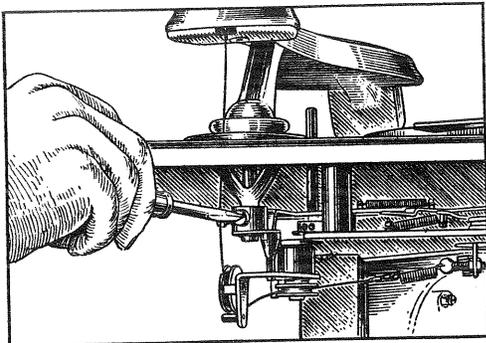
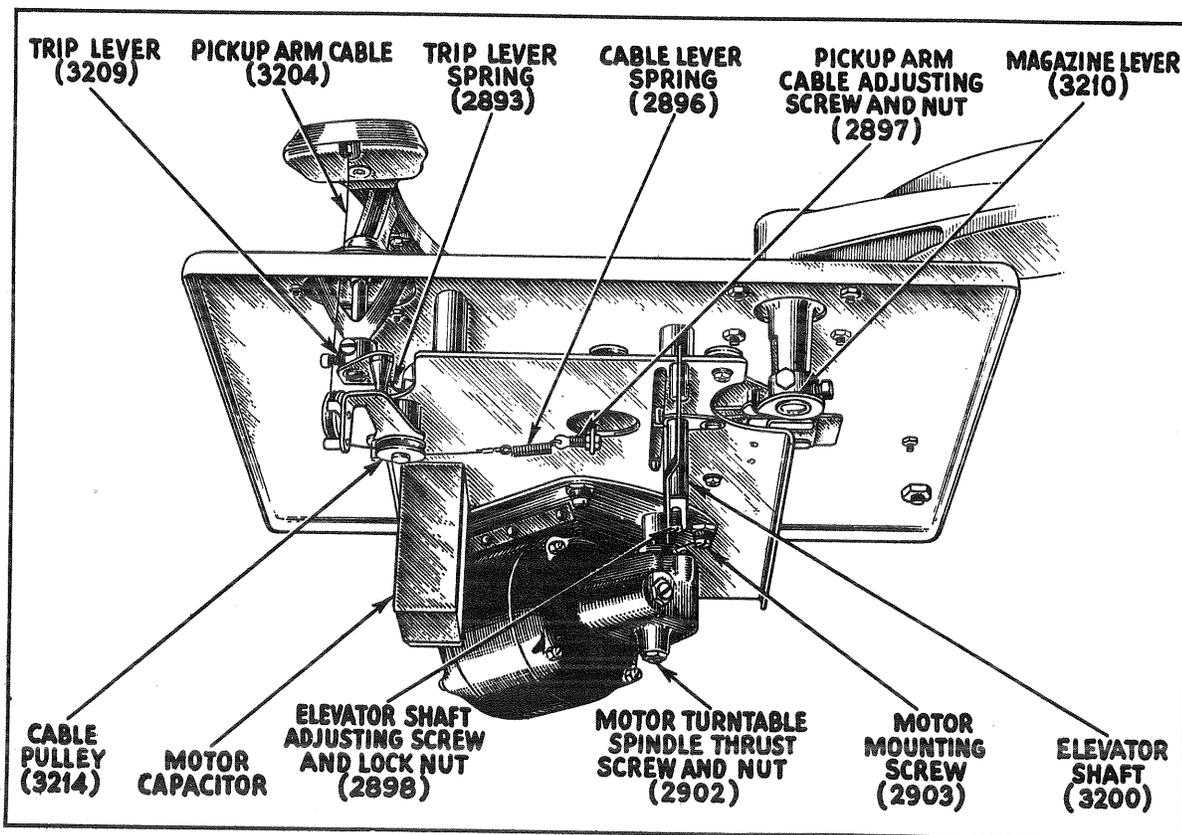
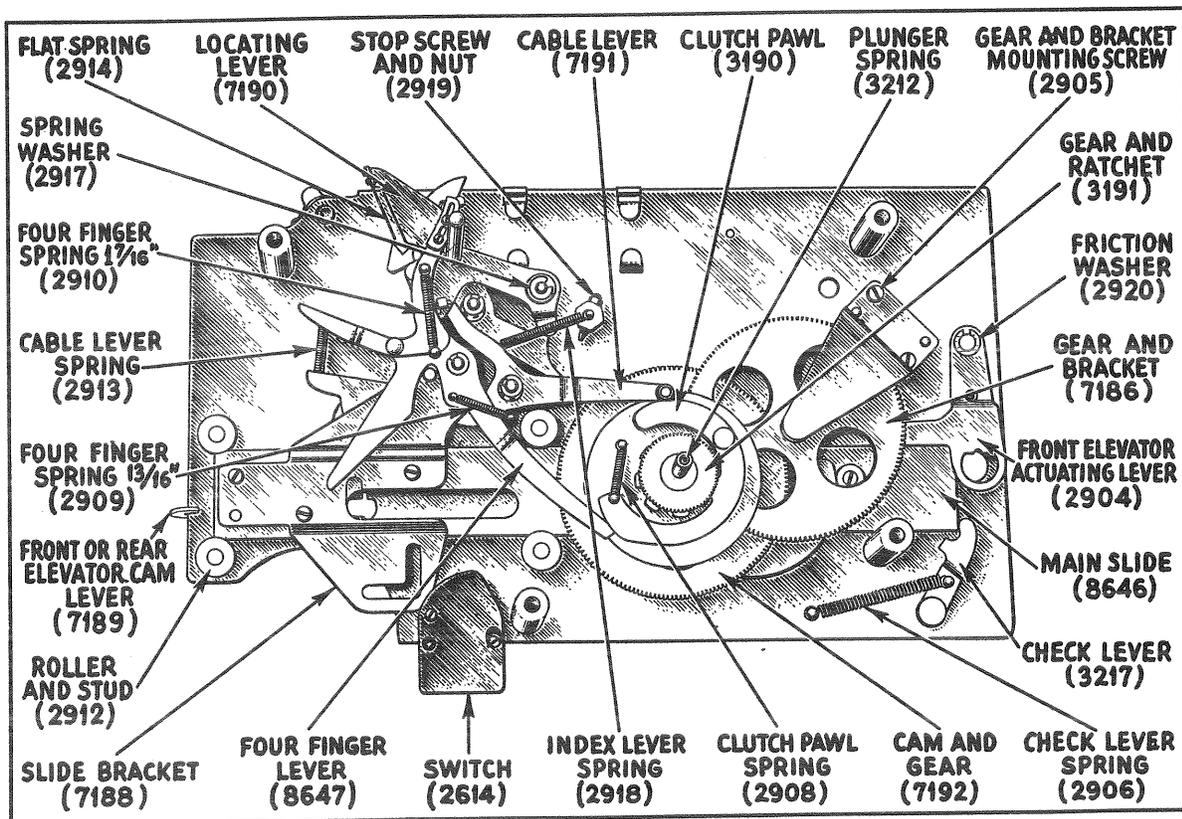

Figure 5—Adjusting position of tone arm
Figure 15—Bottom view of mechanism showing parts
Figure 17—Top view of mechanism with plate removed
- (a) **Improper Tone Arm Setting.** Loosen the set screws as shown in Figure 5. With the mechanism out of its cycle, press the locating lever at a point near the flat spring until the lever strikes the stop screw. Holding the locating lever, Figure 17, in this position, move the front portion of the trip lever, Figure 15, until the pin against which the flat spring presses, is making contact with the locating lever. Holding the two levers in this position, move the pickup arm until the needle is $\frac{1}{16}$ " from the first groove of a standard 10-inch record. Now retighten the two set screws shown in Figure 5.
- (a) Improper setting of the latch plate. Adjust the latch plate, Figure 17, by means of a small offset screw driver such as Stock No. 2930, until it makes proper contact with the latch trip when the eccentric groove is reached.
(9) INABILITY TO SET FOR MANUAL OPERATION
Failure of the mechanism to stop after the "off" button has been pressed, and the mechanism has completed its cycle is caused by improper setting of the secondary stop switch. See Figure 17. The switch body should be so mounted that the contacts will open $\frac{1}{32}$ " when the cycle is completed, but will close as soon as the mechanism has tripped.
- (a) Weak spring on pawl carrier. Remove the pawl spring Figure 17, and increase its tension by removing two or three coils.
- (a) Allow the mechanism to operate until the slide Figure 17 is in its extreme forwarding position. When this setting is reached the straight side of the cam, Figure 17, will be parallel with the side of the slide.